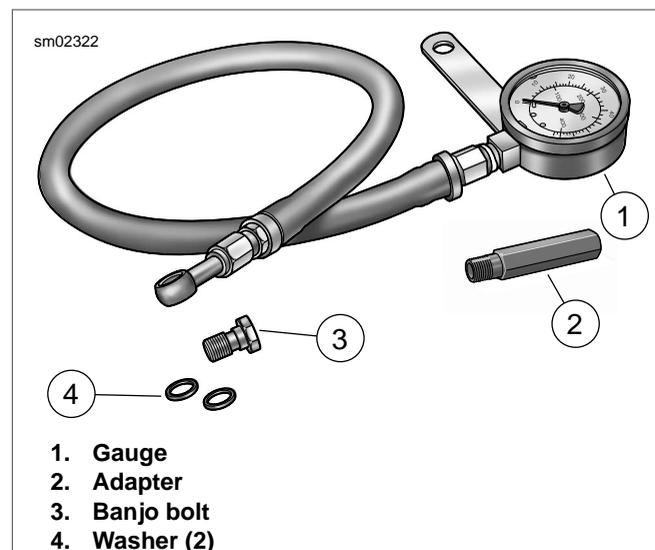

Figure 3-10. Oil Pressure Gauge Set
3. See Figure 3-10. Install OIL PRESSURE GAUGE SET (Part No. HD-96921-52C).
- a. Install adapter (2) in oil pressure switch mounting hole. Tighten adapter until snug.
- b. Assemble banjo bolt (3), washer (4), oil pressure gauge (1) banjo fitting and second washer onto adapter and tighten until snug.